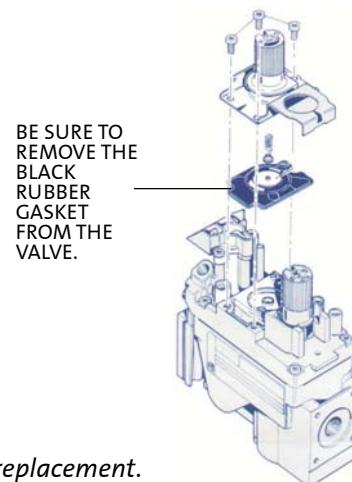

Figure 14 Valve Regulator replacement.
7. Change the Regulator: See Fig. 14.